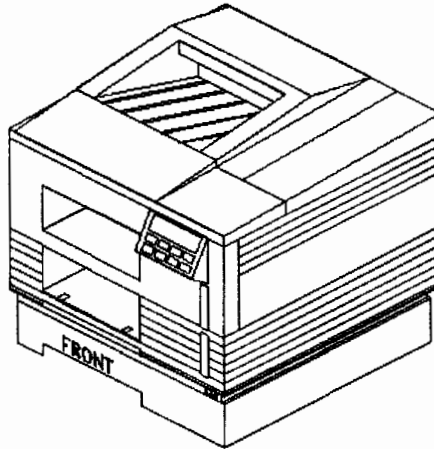

Figure 2-3. Printer Placement upon Pedestal
5. Carefully lower the printer onto the Printer Pedestal, as shown in figure 2-3.